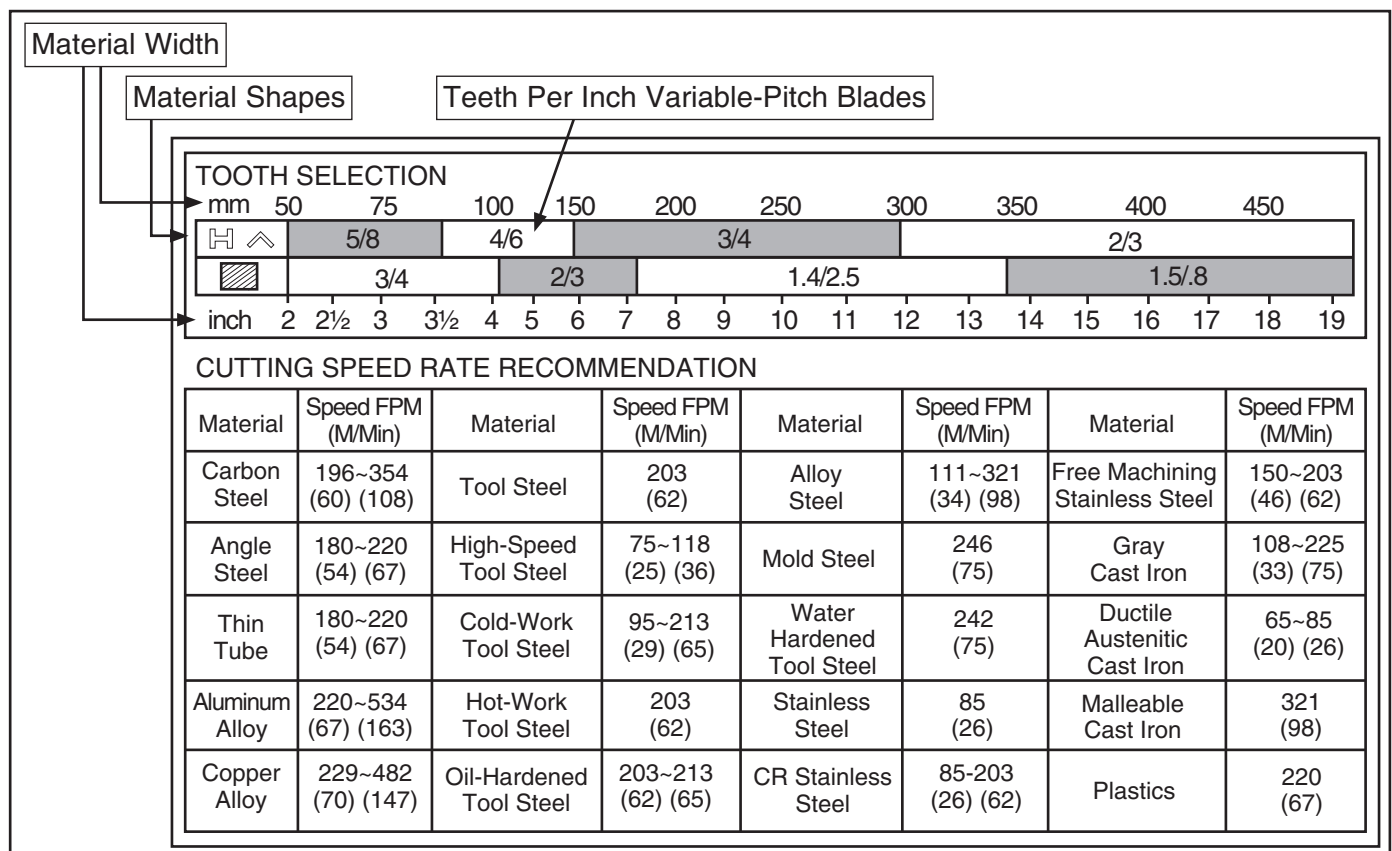

Figure 45. Blade selection and speed chart for metal cutting.
2. Refer to the "Material Width/Diameter" row of the blade selection chart in **Figure 45** and read across to find the workpiece thickness you need to cut.